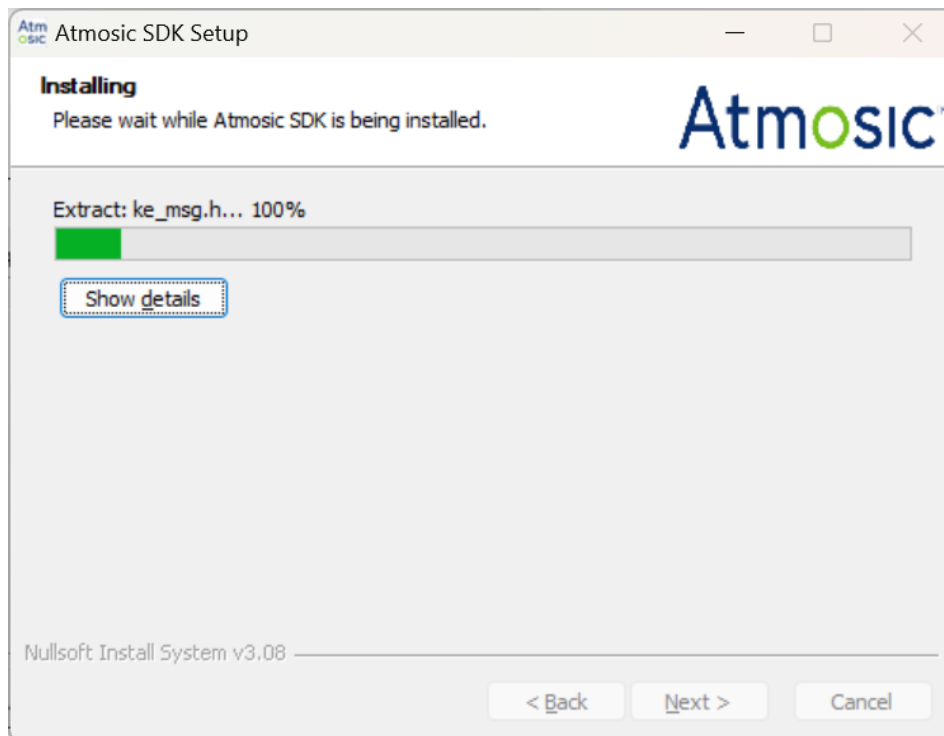

Figure 5 - Installing SDK
- Figure 5 - Installing SDK
The installation process takes several minutes to complete. The Windows Installer is installing MSYS2, GNU Toolchain, and Atmosic SDK files to the target directory. See Figure 5.